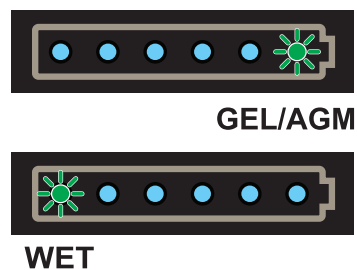

Figure 2
10. (If equipped) Turn the ignition key (41) to "I".
Press the main push-button (42) to turn on the machine, then detect the current setting by checking in the very first seconds the battery symbol LED flashing (see Figure 2):
11. If the setting is to be changed, press the push-button (44) for 3 seconds.
12. Within 3 seconds, shortly press the push-button (44) to select a new setting.
According to the kind of cleaning to be performed, the machine can be equipped either with the brush (A, Fig. 2) or the pad-holder (B) with pad (C) together with the appropriate deck.
1. Place the brush (A) or the pad-holder (B) under the brush deck (26).
2. (If equipped) Turn the ignition key (41) to "I".